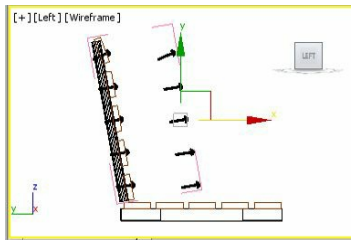

Figure 2-88 The right side seat rivets group in the Left viewport
5. Make sure *right side rivets* group is still selected. Now, create a copy of *right side rivets* and name it as *right side seat rivets*, as shown in Figure 2-88.